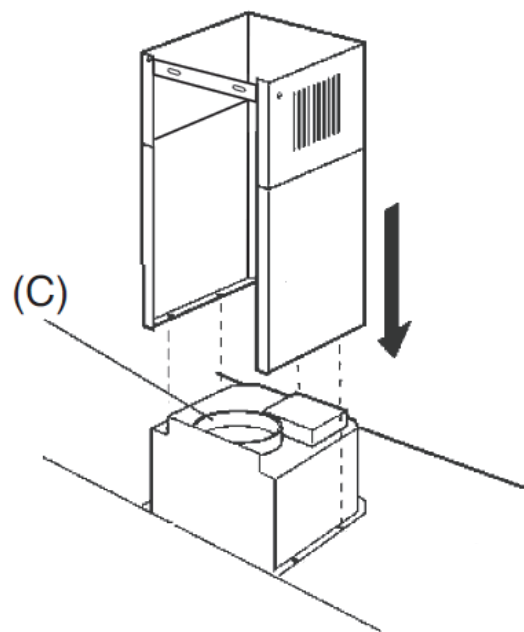

Fig.3
Install butterfly flaps into the outlet on the top of the hood (C) (Fig.3).